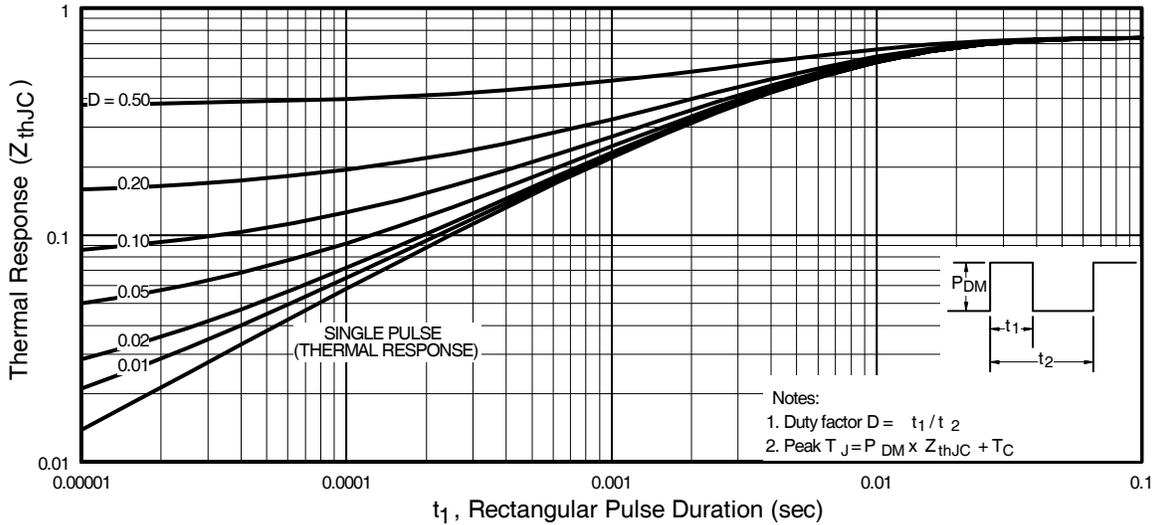

Fig 11. Maximum Effective Transient Thermal Impedance, Junction-to-Case
- ① Repetitive rating; pulse width limited by max. junction temperature. (See fig. 11)
- ② Starting $T_J = 25^\circ\text{C}$, $L = 160\mu H$